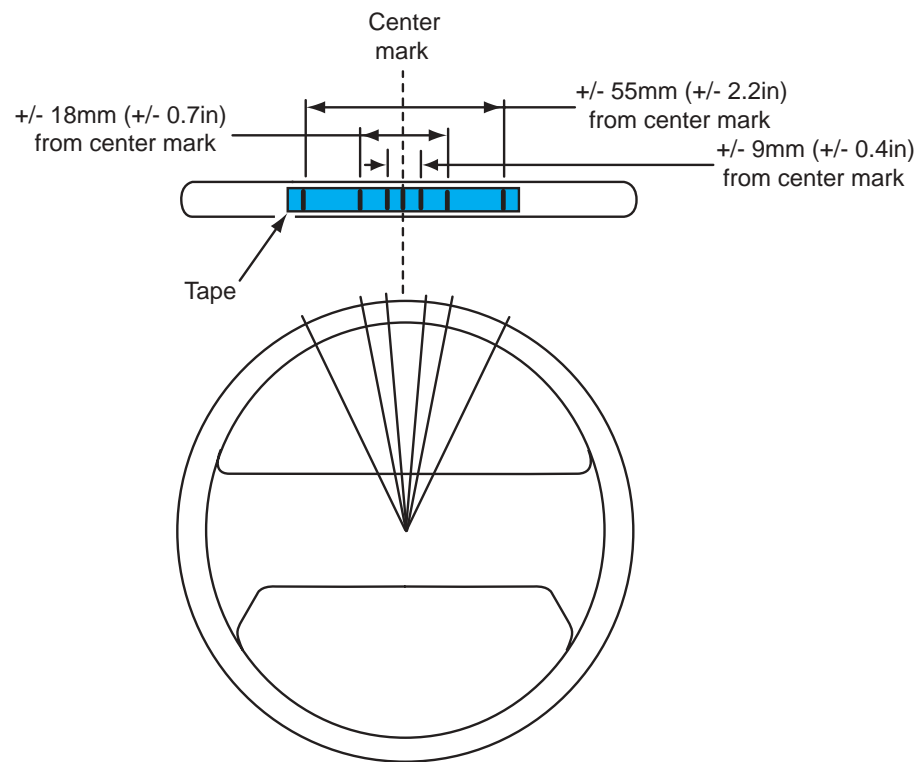

Figure 13-26 Steering wheel marking for electronically neutral check.
2. Place a piece of masking tape 12 in (300 mm) long on top of the steering wheel. Mark the tape at each of the following locations on the outer circumference of the wheel (Figure 13-26).